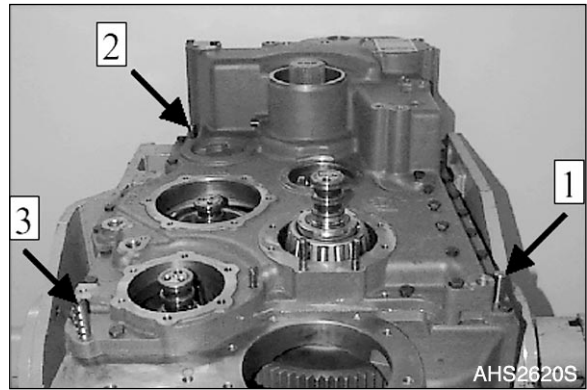

Figure 314
10. Insert both cylindrical pins (1 and 2, Figure 314) until contact is obtained.
12. Drive roll pin (3, Figure 314) flush-mounted in.